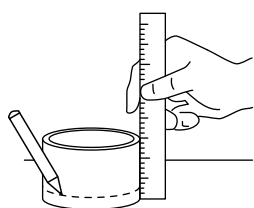
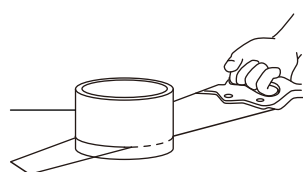

Fig. 8
Fig. 9
7. After concrete has set, remove temporary cover. Measure thickness of floor to be applied, and draw a line around the box at this distance from the concrete. Use a hand saw to cut the box along the drawn line. (Fig. 8 & Fig.9)